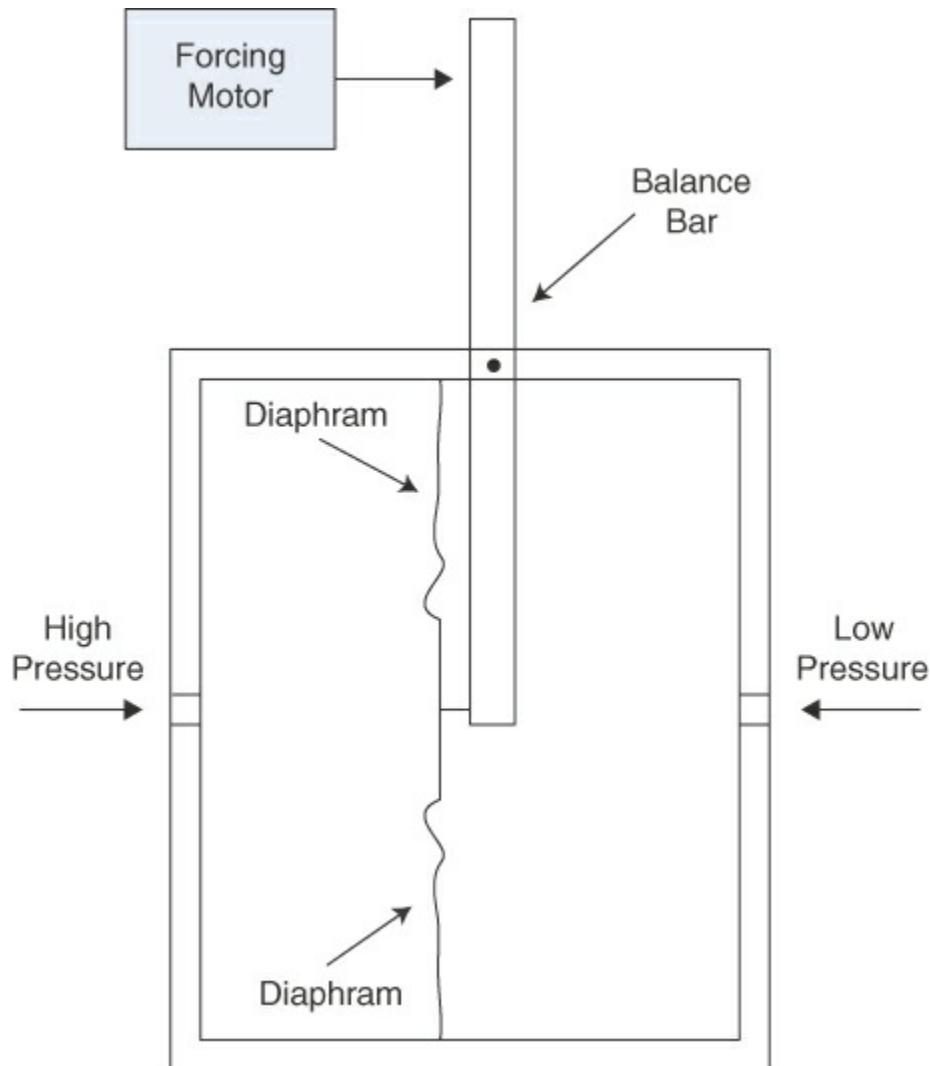

Figure 2.11 Schematic of a DP cell that uses a balance bar
the differential pressure (DP) cell, which usually uses a balanced bar that is deflected on the basis of the differential pressure between two compartments. Because the two compartments of the DP cell are in contact with opposite sides of the diaphragm, the higher pressure side will exert more force on the balance bar (Figure 2.11). A precision forcing motor is used to maintain the balance bar in a balanced position in spite of the force due to the high pressure acting on the diaphragm. As a result, the differential pressure between the compartments is proportional to the force used to balance the bar. If one of the compartments is open to the atmosphere, the DP cell will measure the gauge pressure of the process. DP cells are also used to measure the pressure drop across an orifice plate in order to measure the flow rate or to measure the hydrostatic head as a level sensor.